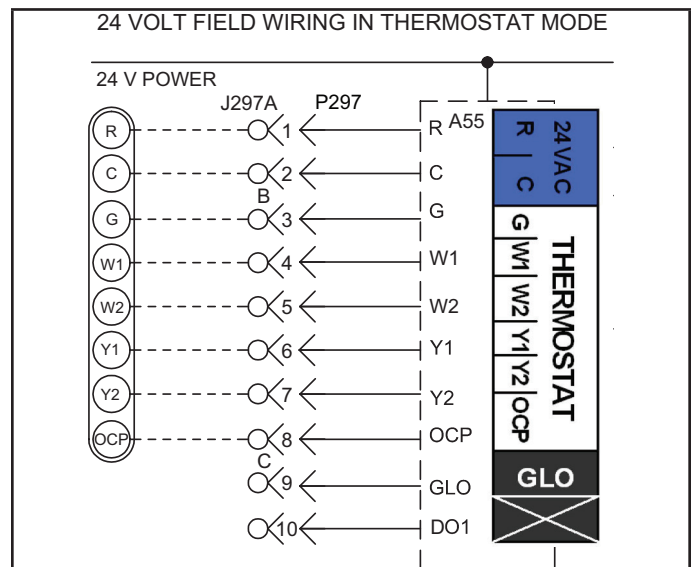
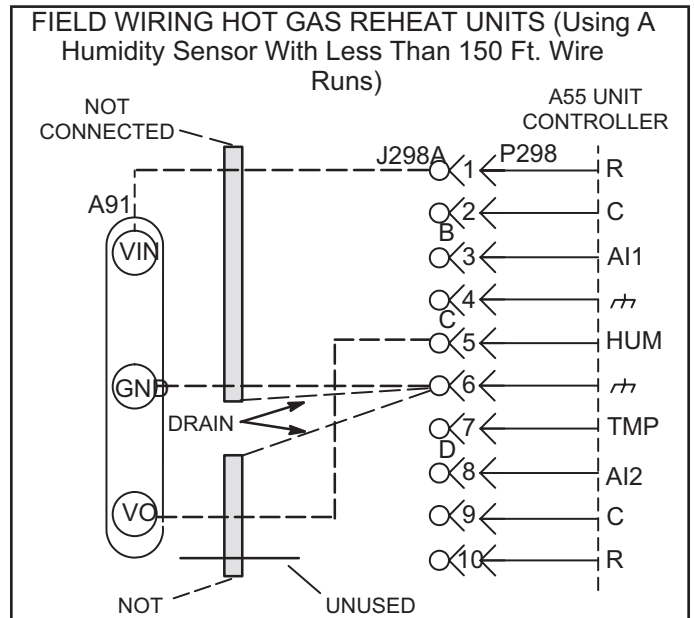
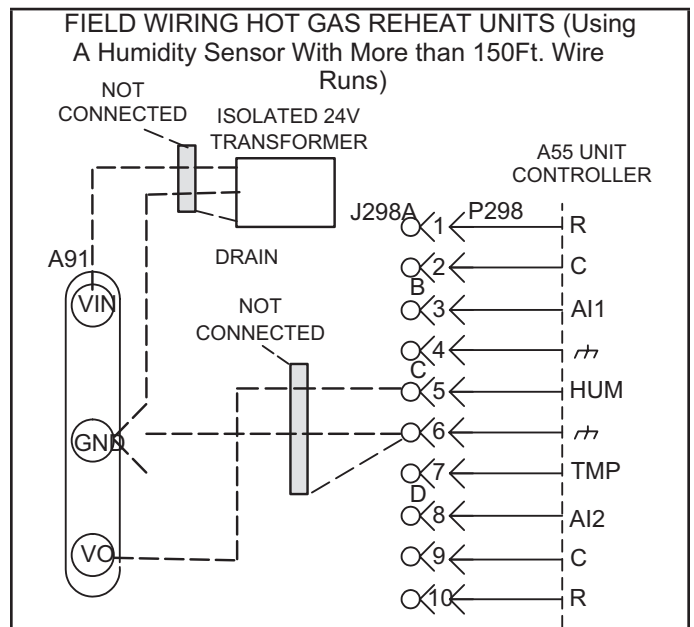

FIGURE 15
FIGURE 18
FIGURE 19
- 4 - Wire as shown in FIGURE 15 for electro-mechanical and electronic thermostats. If using other temperature control devices or energy management systems see instructions and wiring diagram provided by manufacturer.
- 2 - Make wiring connections as shown in FIGURE 15 for Thermostat Mode or FIGURE 16 for Zone Sensor Mode. In addition, connect either a humidity sensor or a dehumidification input. See FIGURE 18 or FIGURE 19 for humidity sensor wiring or FIGURE 17 for dehumidification input wiring.
Use two separate shielded cables containing 20AWG minimum, twisted pair conductors with overall shield. Belden type 8762 or 88760 (plenum) or equivalent. Connect both cable shield drain wires to the Unit Controller as shown in FIGURE 18.
Use two separate shielded cables containing 18AWG minimum, twisted pair conductors with overall shield. Belden type 8760 or 88760 (plenum) or equivalent. Connect both cable shield drain wires to the Unit Controller as shown in FIGURE 18.
Use a local, isolated 24VAC transformer such as Lennox cat #18M13 (20VA minimum) to supply power to RH sensor as shown in figure 19. Use two shielded cables containing 20AWG minimum, twisted pair conductors with overall shield. Belden type 8762 or 88760 (plenum) or equivalent.